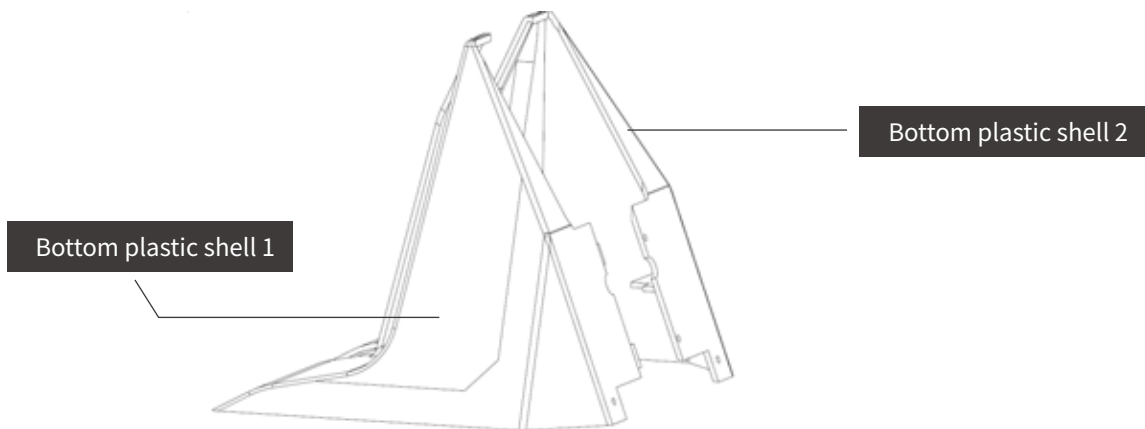

Figure 3.1.3
16. Installing the support pillar bottom shell: slot the support pillar bottom plastic shell 1 into the pillar and adjust it to the appropriate position. Install the pillar bottom plastic shells as shown in figure 3.1.3 and use the st3.5 screw to tighten. Lock the st3.5 screw when fine adjusting it to the position shown in figure 3.1.4.